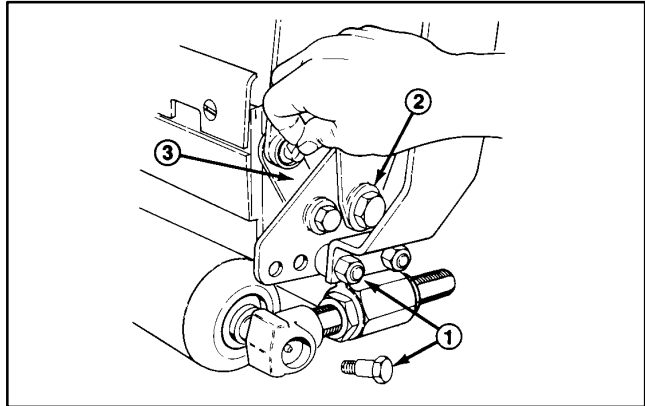

Figure 16
1. Remove the shoulder bolts, bushings and spacers from each end of the unit and remove the bedbar/bedknife assembly (Fig. 16).